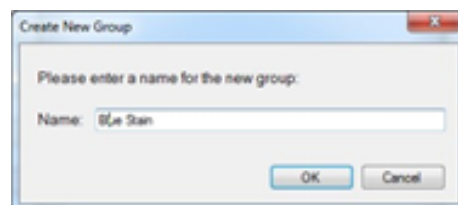

FIGURE 3.11. Assigning a new group.
- Assign one or more measured spectra to a group or groups. (See Figure 3.11.) You can assign spectra to existing groups, or you can create a new group if needed. Each spectrum can belong to multiple groups.